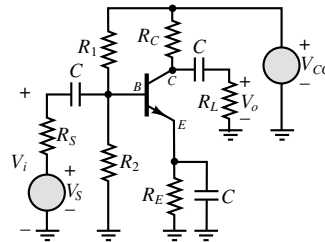

Figure P10.31
- 10.31** The circuit shown in Figure P10.31 is a common-emitter amplifier stage. Determine the Thévenin equivalent of the part of the circuit containing R_1 , R_2 , and V_{CC} with respect to the terminals of R_2 . Redraw the schematic, using the Thévenin equivalent.